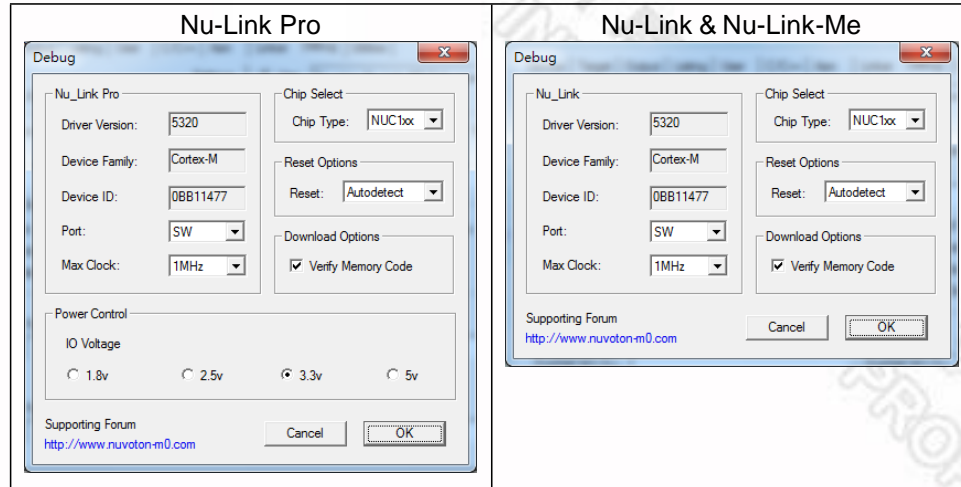

Figure 4-11 Nu-Link Adapter Parameter Settings
Step 5: Click the **Settings** button to open the *Debug* form, as shown in Figure 4-11. Refer to Table 4-1 for each setting description. The setting options shown in the *Debug* form may vary depending on the type of the Nu-Link Adapter used.